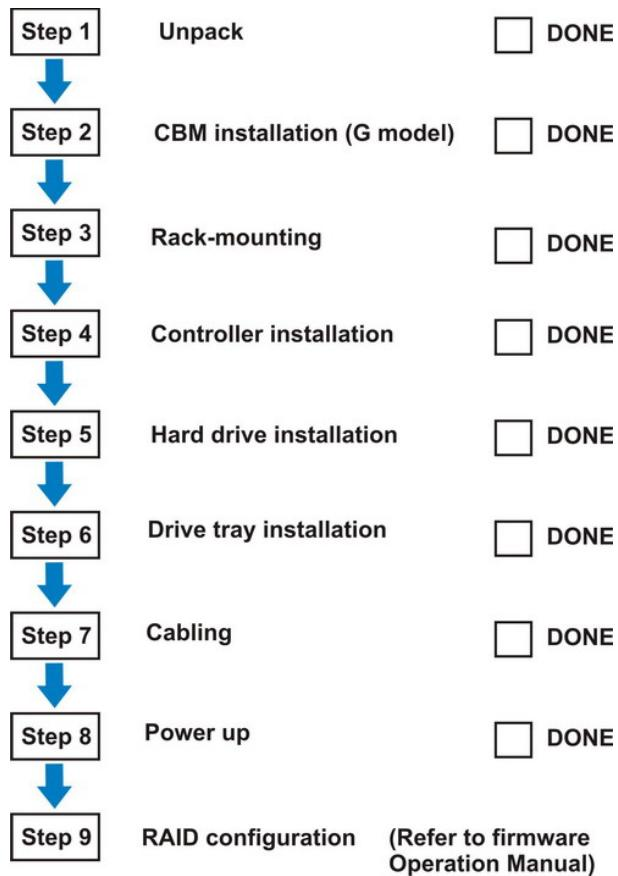

Figure 2-4: Installation Procedure Flowchart
**Figure 2-4** shows a flowchart of the installation procedure. As you complete each step, check off the “Done” box on the right. Please use this flowchart in conjunction with the instructions that follow.